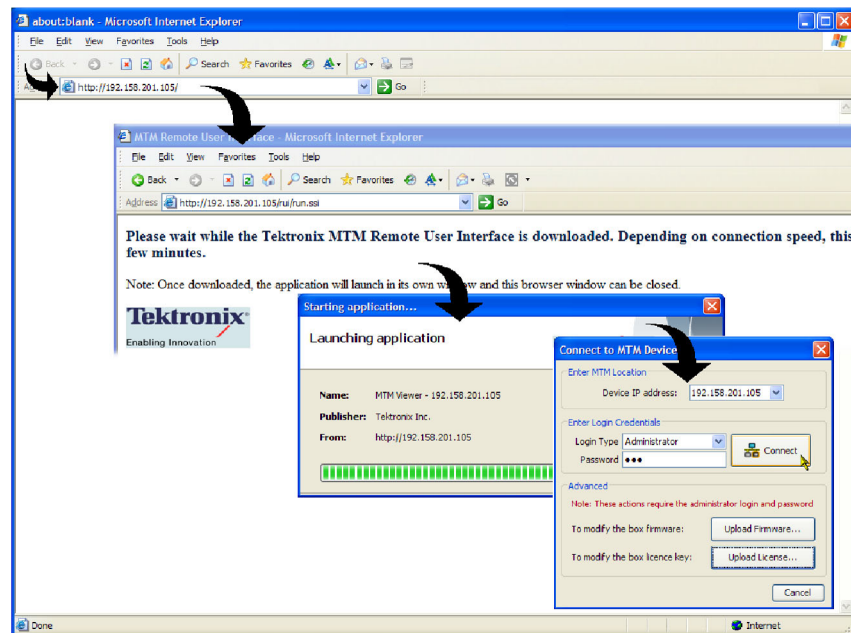

Figure 15: Logging in to monitor (RUI v3.0 and above)
5. After the Java applet is downloaded, the Connect to MTM Device dialog box is displayed. (See Figure 15.)
3. After the Java applet is downloaded, the Connect to MTM Device dialog box is displayed. (See Figure 15.)
6. After the Java applet is downloaded, the Connect to MTM Device dialog box is displayed. (See Figure 15 on page 29.)